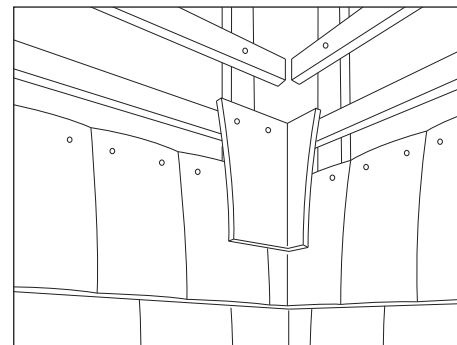

Fig. 19 – Internal angle with Internal Angle tiles
- 2 Left and right hand angles of 90° (or other angle to suit) are available to provide a broken bond with main tiling, to be twice nailed (Figs. 19 and 20).